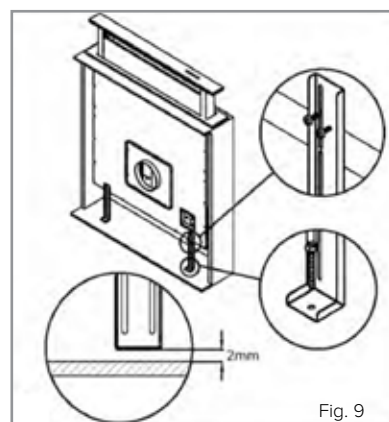

Fig. 9
8) Fix the downdraft extractor inside the cabinet using the special fixing brackets supplied (Fig. 9).